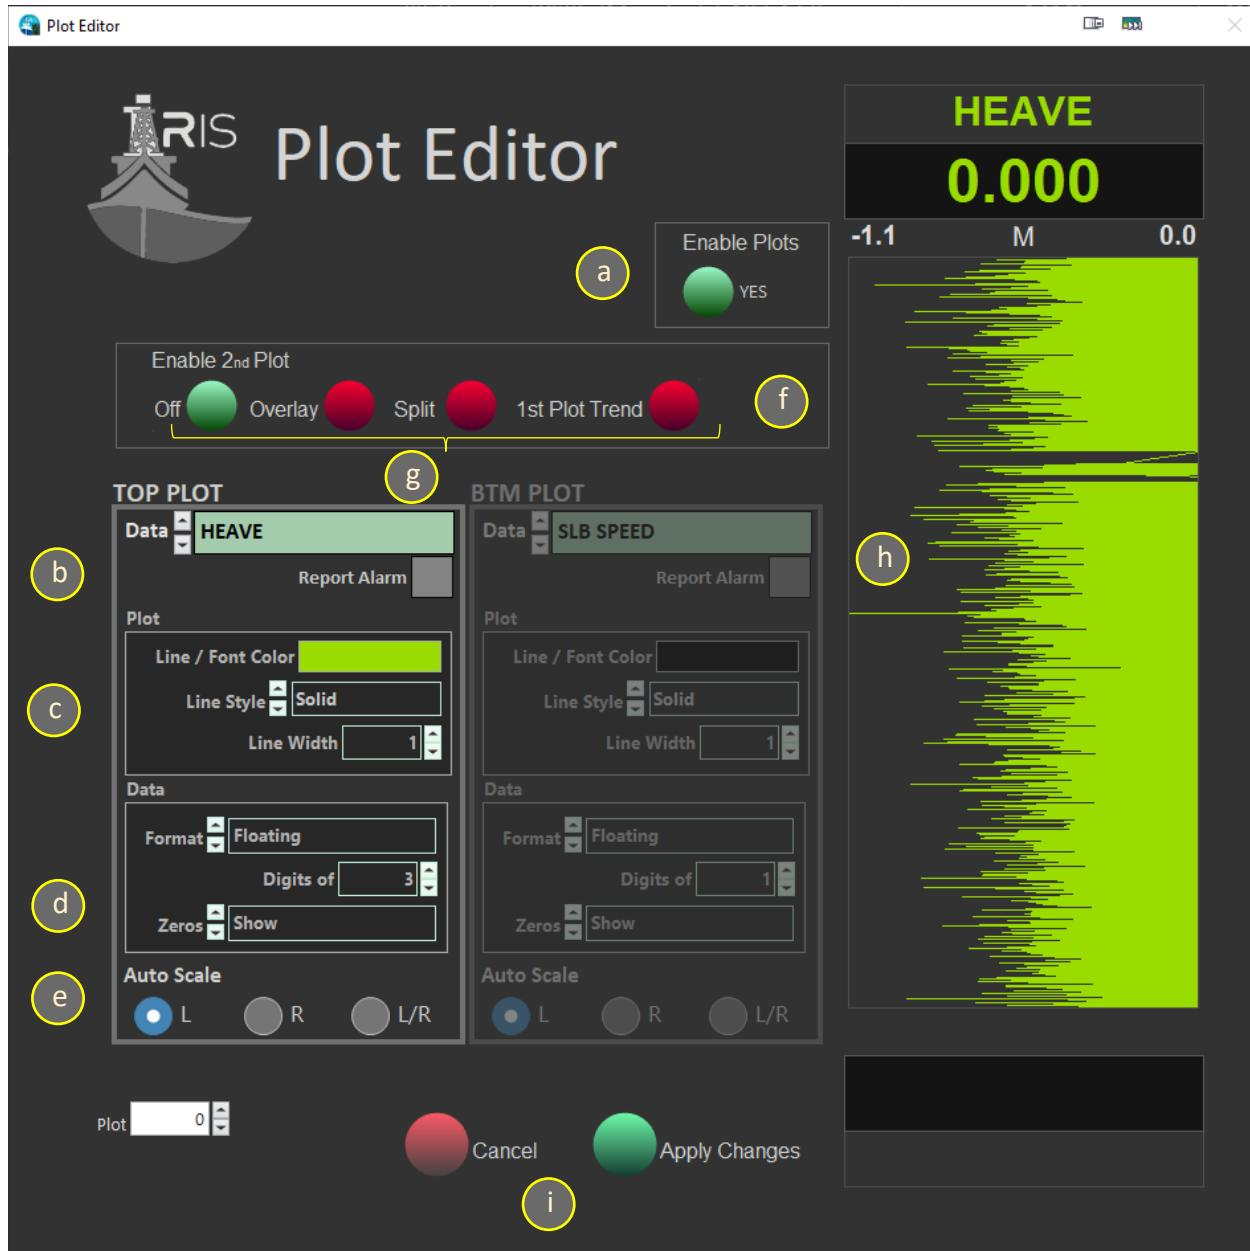

Figure 14. iRIS Plot Editor Window
- Click “Enable Plots” to activate the graphing function. Click a second time to deactivate the plot. *See Figure 14 above*